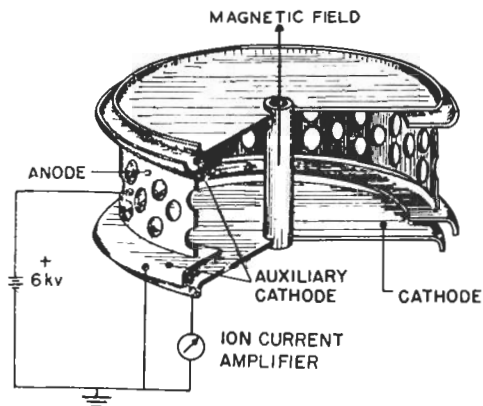

FIGURE 12
All the ionisation gauges we have described so far employ hot cathodes. Hot cathodes interfere seriously with many experiments. The dissociation of diatomic gases has been mentioned and it leads to reaction between gas atoms and any available surface, including glass. Certain reactions may be catalysed by hot filaments and foreign ions are sometimes emitted. Accordingly it would be useful to have a cold-cathode magnetron (Penning gauge) suitable for modern UHV systems. Such a gauge has been developed by Redhead(6) and is commercially available abroad. We are collecting experience with the gauge in Bristol. Figure 12 shows the electrode structure. 6kV are applied between the anode and cathode to stimulate cold emission of electrons and to provide a strong electric field. Guard ring cathodes ensure that the field is uniform and prevent emission from the edges of the cathode. The electrons cannot escape from the discharge and perform oscillations which are not dissimilar to those in the Houston gauge. There is no grid so there is little X-ray effect. Some X-rays are produced when electrons strike the anode but this effect decreases with pressure.